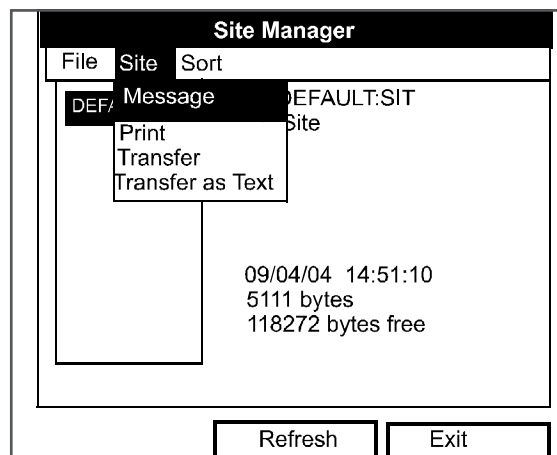

Figure 81: The Site Menu in the Site Manager
You can access four additional functions from the Site submenu (shown in *Figure 81*).
1. Press **[MENU]** to enter the File Menu. Then press the **[▶]** arrow key once to scroll from the File Menu to the Site Menu. Press **[ENTER]**. The screen appears similar to *Figure 81*.